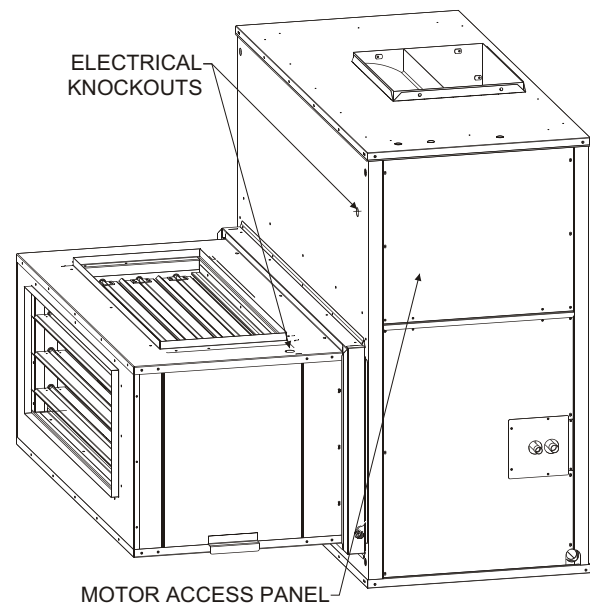

Figure 2 - (B4,B5)SM Vertical Application\*
2. Install and secure the economizer as shown with the air handler in the Horizontal position (**Figure 1**) or in the Vertical position (**Figure 2**) using screws (12) provided in the kit.